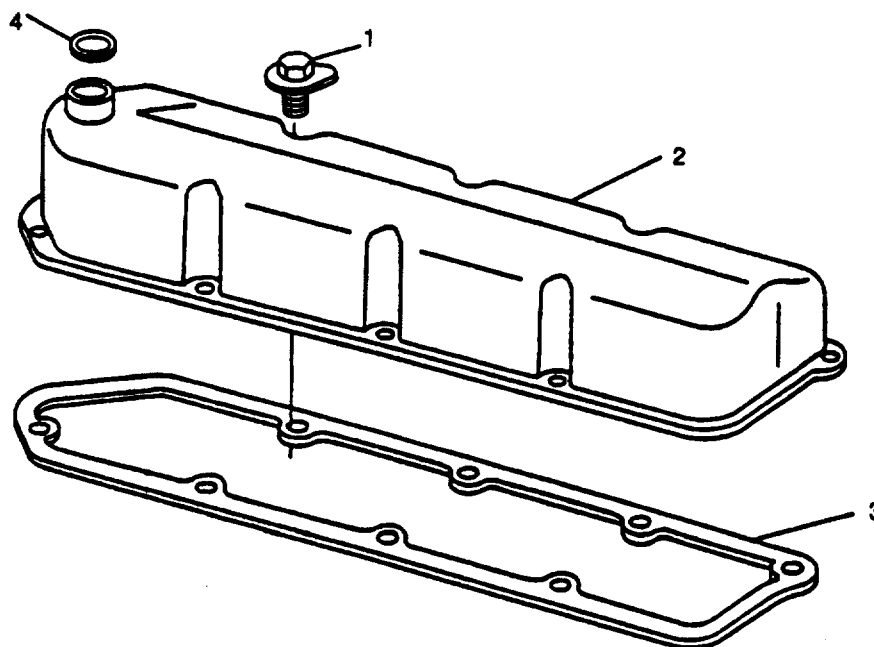

FIGURE 3-94. Valve Cover
- a. Remove eight bolts (1, FIGURE 3-94) securing valve cover (2); remove valve cover (2) and gasket (3). Discard gasket (3).
- b. Remove preformed packing (4). Discard packing (4).
Install gasket (3, FIGURE 3-94) dry (no sealant).
- a. Position new gasket (3, FIGURE 3-94) and valve cover (2) on cylinder head and secure with eight bolts (1). Tighten bolts to 7 ft-lbs (11 Nm).
- b. Install new preformed packing (4) in valve cover.